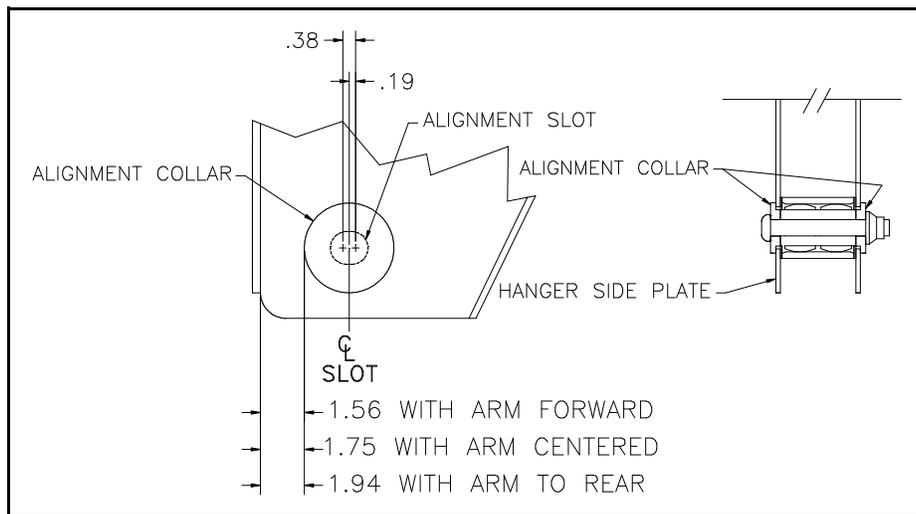

Figure 6-1
2. Position one beam of the auxiliary suspension so the alignment collar is in the center of the alignment slot and tack weld the alignment collar to frame bracket side plate. (See Figure 6-1)